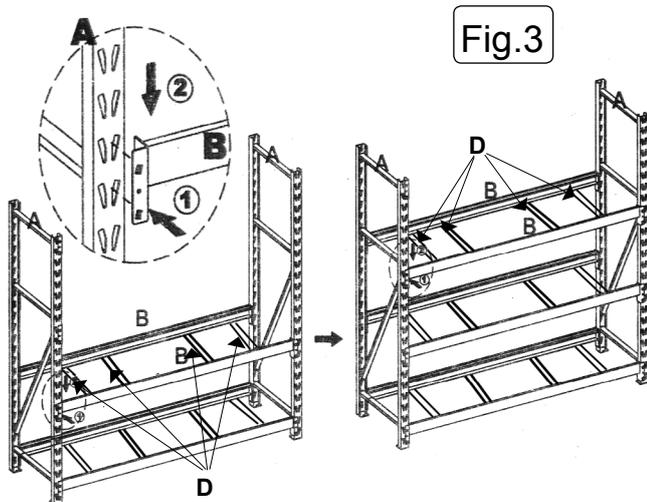

Fig.3
**4.4 See Fig.3.** Continue to assemble the next two pairs of cross beams at the heights required. The end frames allow adjustment in 3" increments. Each pair of beams must be mounted at the same height. Ensure that all tabs on the cross beam brackets are fully engaged in the slots in the uprights and that the cross beams are properly tapped down into place.